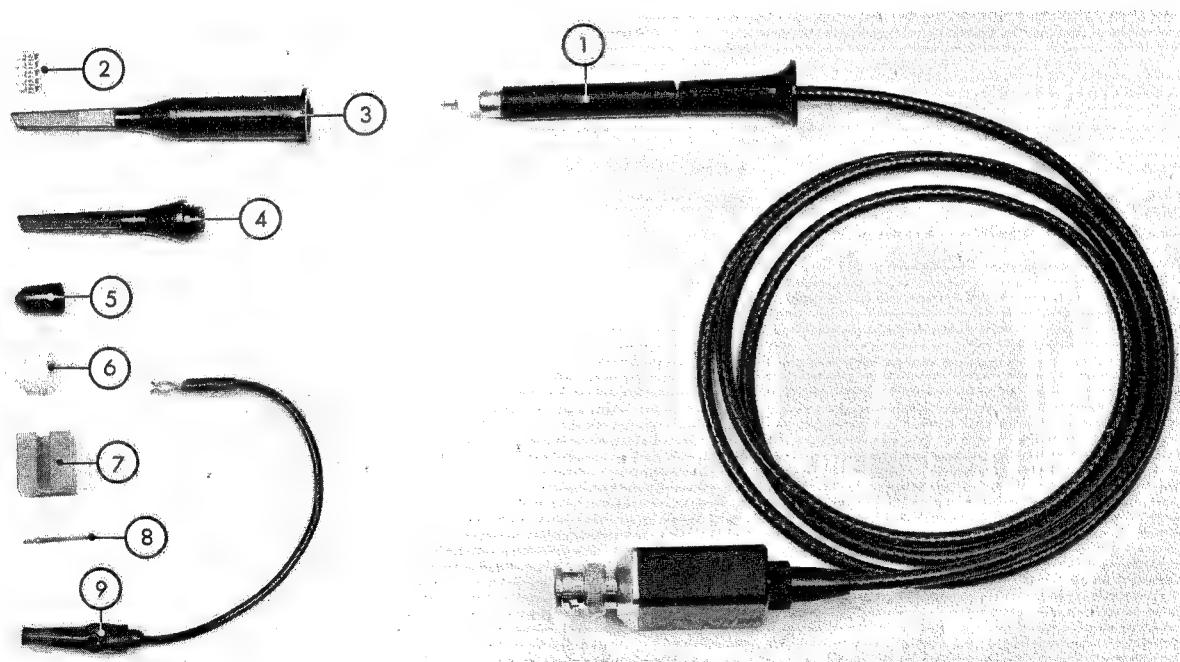

Fig. 3.29. Attenuator probe set PM 9358
| 1 probe assembly | Fig. 3.29. item 1 |
| 5 soldering terminals | Fig. 3.29. item 2 |
| 1 test hook | Fig. 3.29. item 3 |
| 1 spare test hook sleeve | Fig. 3.29. item 4 |
| 1 protective cap | Fig. 3.29. item 5 |
| 1 insulating cap | Fig. 3.29. item 6 |
| 1 probe holder | Fig. 3.29. item 7 |
| 2 spare test pins | Fig. 3.29. item 8 |
| 1 earthing cord | Fig. 3.29. item 9 |